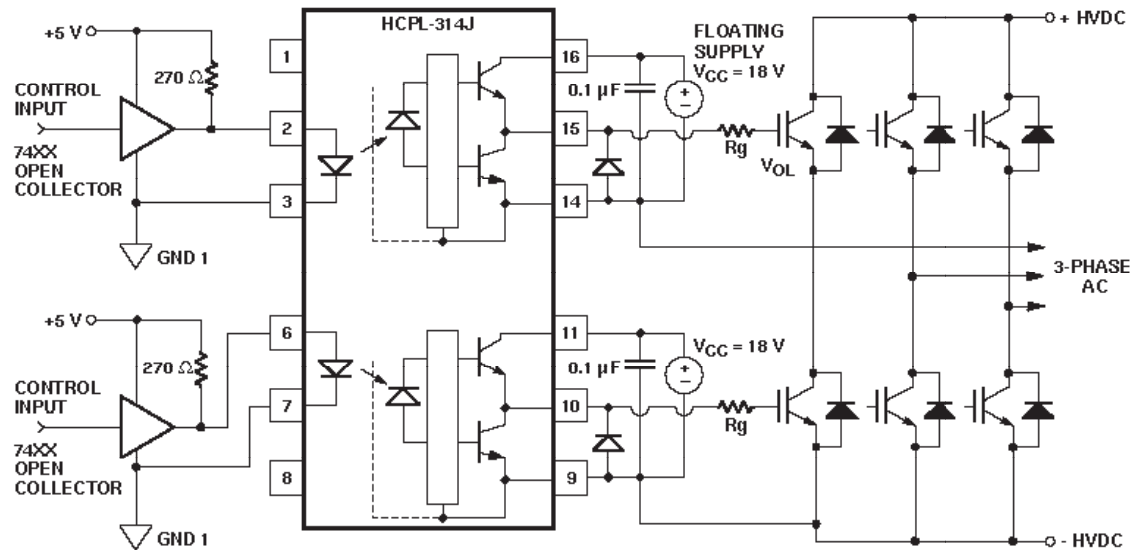
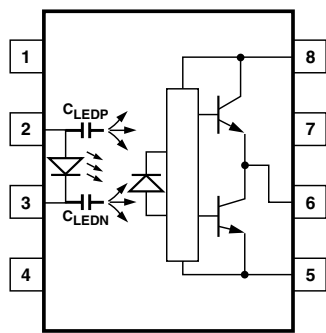
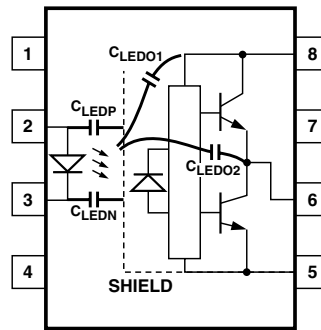
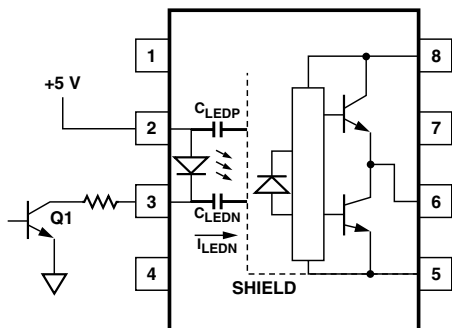

Figure 19. Recommended LED Drive and Application Circuit for HCPL-314J.
Figure 21. Optocoupler Input to Output Capacitance Model for Unshielded Optocouplers.
Figure 22. Optocoupler Input to Output Capacitance Model for Shielded Optocouplers.
Figure 24. Not Recommended Open Collector Drive Circuit.
To keep the IGBT firmly off, the HCPL-314J has a very low maximum V_{OL} specification of 1.0 V. Minimizing R_g and the lead inductance from the HCPL-314J to the IGBT gate and emitter (possibly by mounting the HCPL-314J on a small PC board directly above the IGBT) can eliminate the need for negative IGBT gate drive in many applications as shown in Figure 19. Care should be taken with such a PC board design to avoid routing the IGBT collector or emitter traces close to the HCPL-314J input as this can
result in unwanted coupling of transient signals into the input of HCPL-314J and degrade performance. (If the IGBT drain must be routed near the HCPL-314J input, then the LED should be reverse biased when in the off state, to prevent the transient signals coupled from the IGBT drain from turning on the HCPL-314J.) An external clamp diode may be connected between pins 14 & 15 and pins 9 & 10 (as shown in Figure 19) for the protection of HCPL-314J in the case of IGBTs switching inductive load.
Step 1: Calculate R_g minimum from the I_{OL} peak specification. The IGBT and R_g in Figure 24 can be analyzed as a simple RC circuit with a voltage supplied by the HCPL-314J.
where $K_{ICC} \bullet Q_g \bullet f$ is the increase in I_{CC} due to switching and K_{ICC} is a constant of 0.001 mA/(nC•kHz). For the circuit in Figure 19 with I_F (worst case) = 10 mA, R_g = 32 Ω, Max Duty Cycle = 80%, Q_g = 100 nC, f = 20 kHz and T_{AMAX} = 85°C:
HCPL-J314 fig 22
Without a detector shield, the dominant cause of optocoupler CMR failure is capacitive coupling from the input side of the optocoupler, through the package, to the detector IC as shown in Figure 21. The HCPL-314J improves CMR performance by using a detector IC with an optically transparent Faraday shield, which diverts the capacitively coupled current away from the sensitive IC circuitry. However, this shield does not eliminate the capacitive coupling between the LED and optocoupler pins 5-8 as shown in Figure 22. This capacitive coupling causes perturbations in the LED current during common mode transients and becomes the major source of CMR failures for a shielded optocoupler. The main design objective of a high CMR LED drive circuit becomes keeping the LED in the proper state (on or off) during common mode transients. For example, the recommended application circuit (Figure 19), can achieve 10 kV/μs CMR while minimizing component complexity.
The open collector drive circuit, shown in Figure 24, can not keep the LED off during a $+dV_{CM}/dt$ transient, since all the current flowing through C_{LEDN} must be supplied by the LED, and it is not recommended for applications requiring ultra high CMR₁ performance. The alternative drive circuit which like the recommended application circuit (Figure 19), does achieve ultra high CMR performance by shunting the LED in the off state.